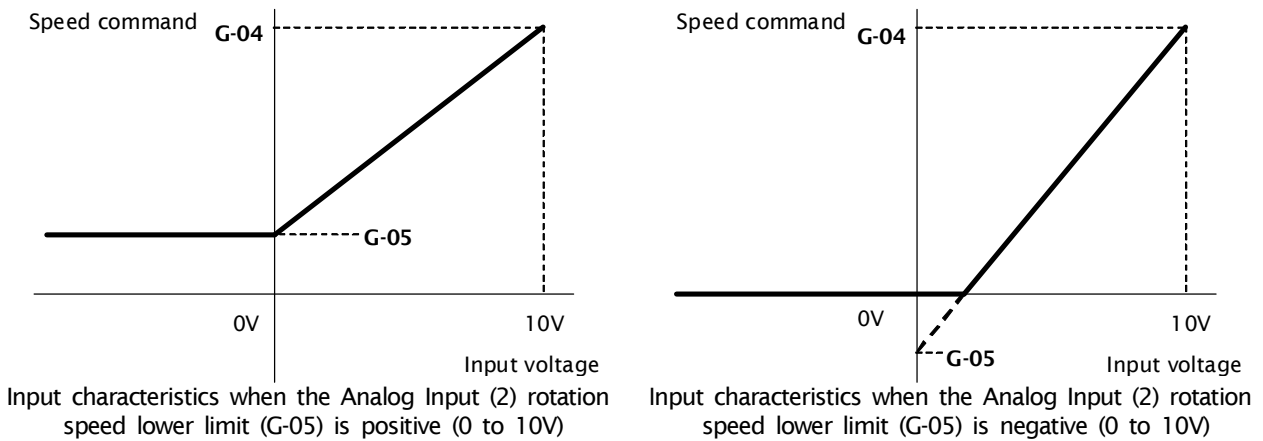

Figure 6.3 Speed command characteristics with voltage input of 0 to 10V
The rotation speed command value is set as the Analog Input (2) rotation speed lower limit (G-05) when the input is 0V. When the input is 10V, it is set as the Analog Input (2) rotation speed upper limit (G-04). However, this will be set to “0” if the Analog Input (2) rotation speed lower limit (G-05) has a negative value. (Figure 6.3) If the minimum rotation speed (A-01) is other than “0”, the rotation speed command absolute value is controlled to prevent falling below the minimum speed. As a speed command, this only allows forward operation. For reverse operation, a reverse operation command should be used.